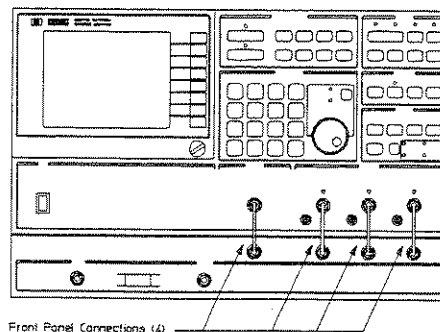

Figure 5-3 Front panel cable Installation
3. Install the four N-connector 50 Ω cables between the front panels of the two instruments as shown in figure 5-3.